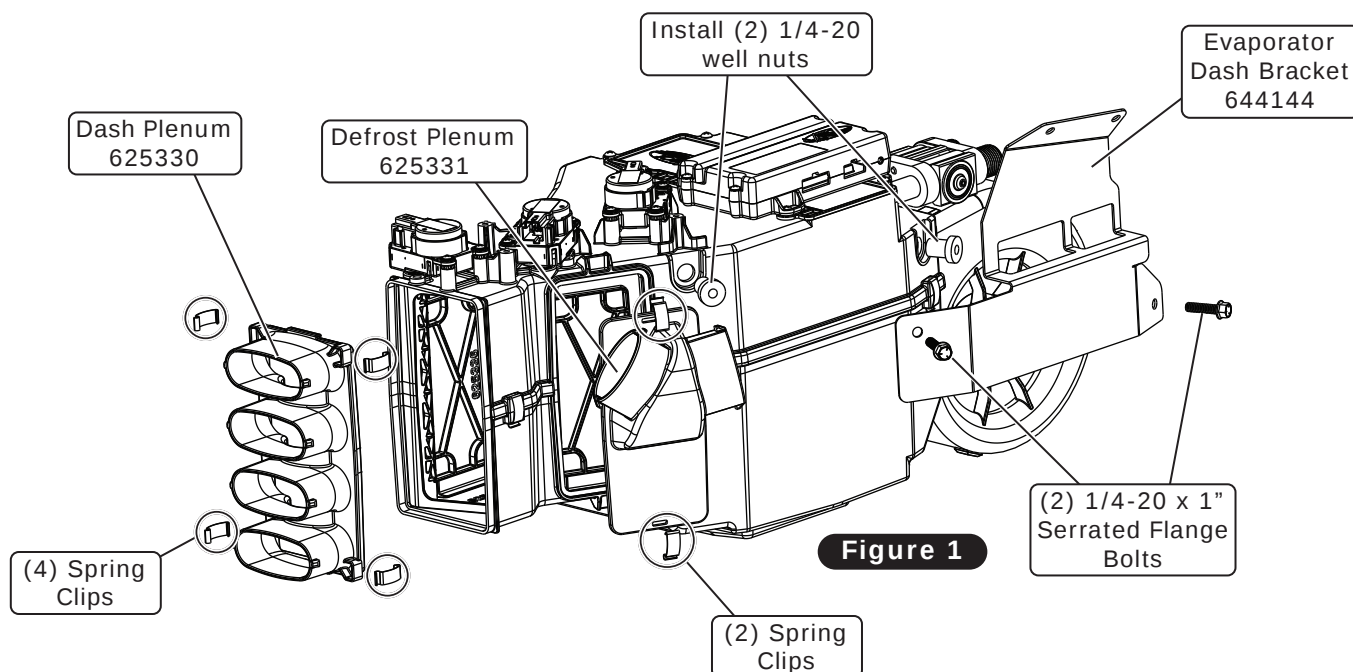

Figure 1
1. Install the defrost plenum onto the evaporator module using (2) spring clips (See Figure 1, below).
2. Install the dash plenum onto the evaporator module using (4) spring clips (See Figure 1, below).
3. Install (2) 1/4-20 well nuts as shown in Figure 1, below.
4. Attach the evaporator dash bracket onto the evaporator using (2) 1/4-20 x 1" serrated flange bolts (See Figure 1, below).